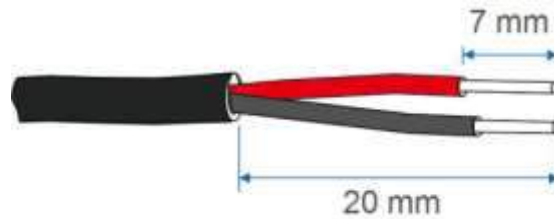

Fig. 4-45 Strip the protection layer
- 1) Strip the protection layer and insulation layer by appropriate length (Fig. 4-45).